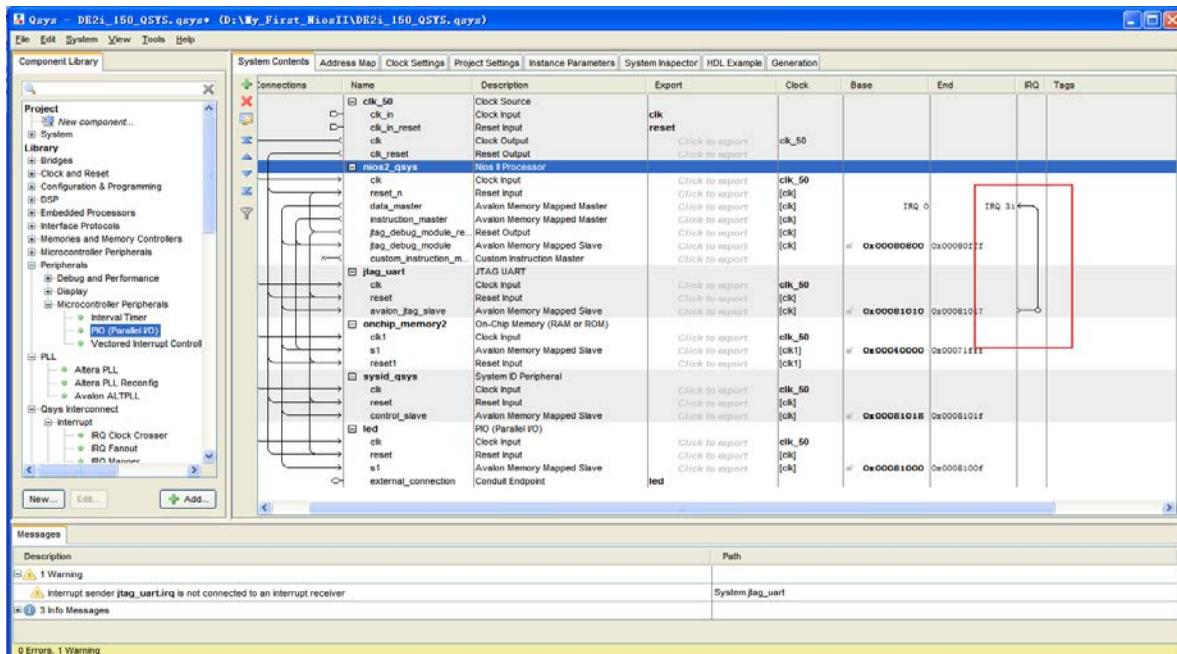

Figure 1-45 Assign IRQ
29. Assign **Interrupt Numbers** as shown in Figure 1-45. After that, you will find that there is no warings in the message window as shown in Figure 1-46.( In the **IRQ** column, connect the Nios II processor to the JTAG UART)